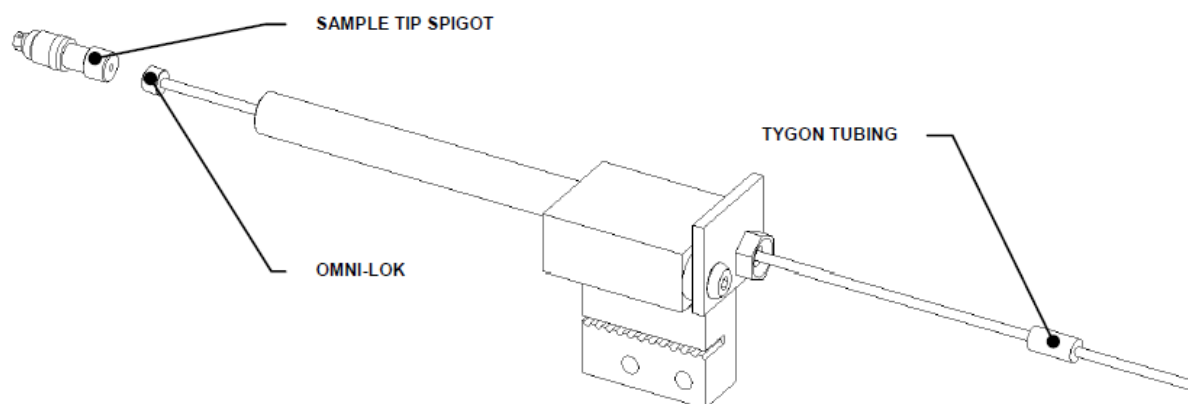

Figure U-42: Securing the Spigot
10. Feed the PTFE Tube through the Spigot Support until the Omni-Lok sits on the inner step inside the Spigot Support and secure it with a Sample Tip Spigot using Loctite 242 (Figure U-42). Verify that this connection is air tight. Fit a 10mm long Tygon Tubing piece on the PTFE Tube.